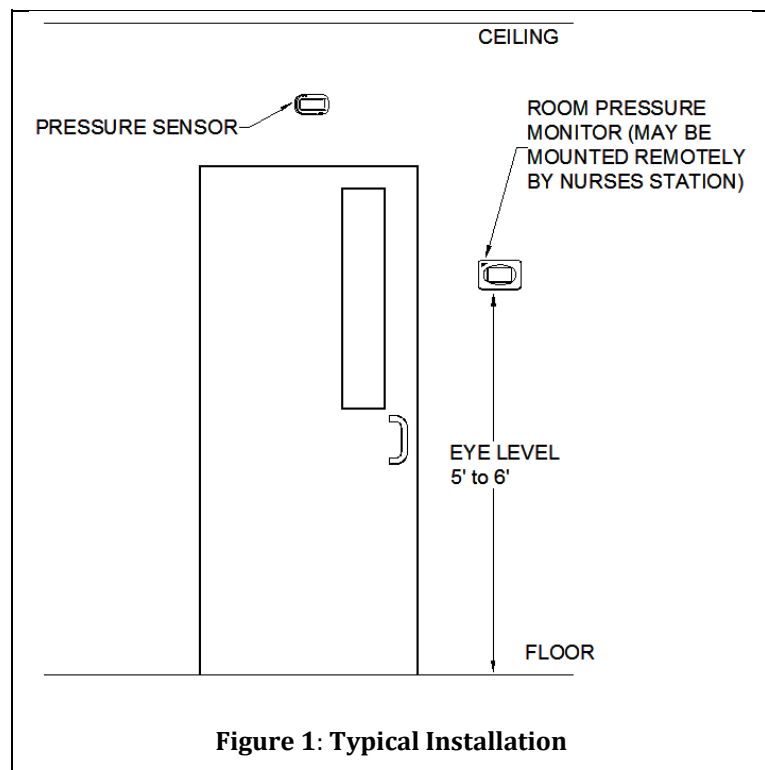
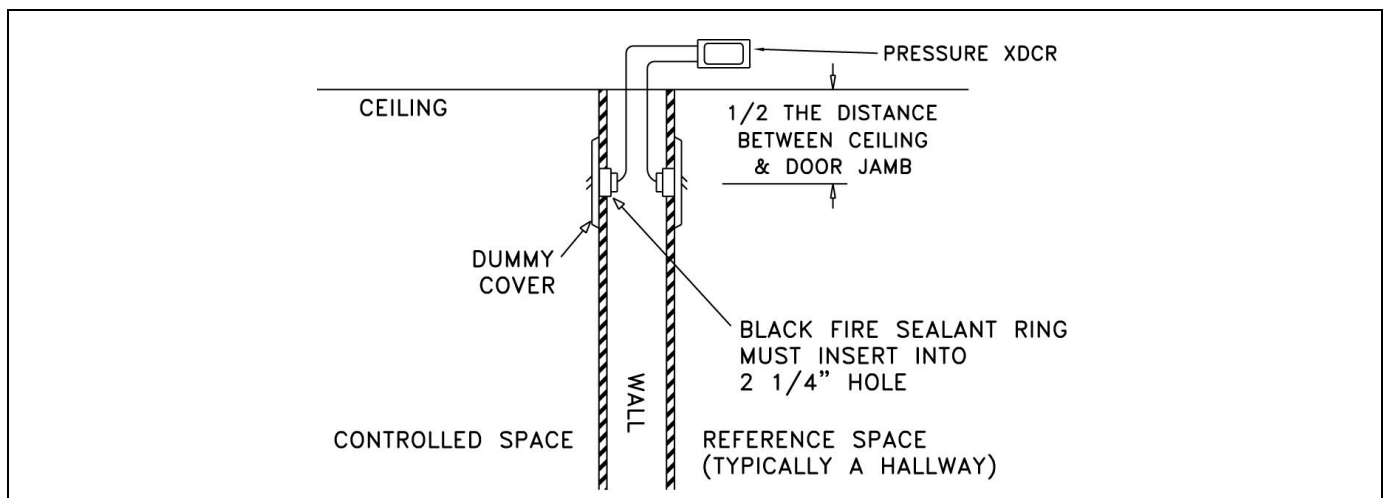

Figure 1: Typical Installation
Figure 5: Cutaway View of Mounted Pressure Transducer Assembly
- Determine pressure sensor location (Figure 1, Figure 3, and Figure 4). Pressure sensor typically mounts in the reference space, and the dummy housing mounts in the isolation room.
801913 pressure plates must be mounted in the wall between the controlled space (clean room) and referenced space (hallway), exactly as shown in Figure 5 and Figure 6. This installation is not representative of the through penetrating product tested under UL.
- Install pressure transducer in desired location (typically above ceiling). The transducer must be mounted on a wall in the correct position per Figure 5 (screws not provided). **DO NOT** mount pressure transducer to duct or other vibrating surface.
- Determine pressure sensor location (Figure 1, Figure 5 and Figure 6). Pressure sensor typically
- Insert the pressure plate into the hole in the wall. Screw the pressure plate to the wall. The finished assembly should look like Figure 5.
- Select the mounting location of the pressure monitor. The construction plans normally show the mounting location. If no location is specified, then the unit is typically installed as shown in Figure 1. Alternate mounting locations are nurses' station, other staff areas, etc.